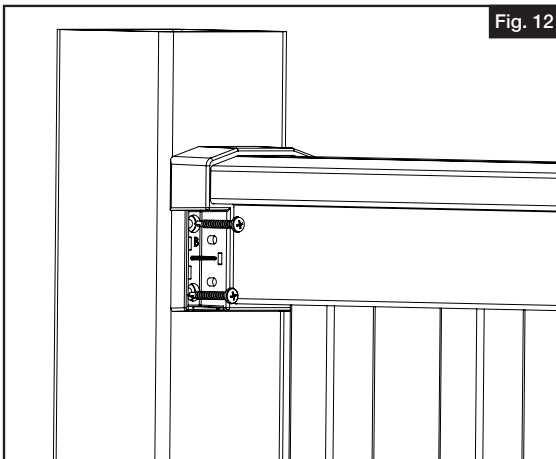

Fig. 12
- iii. Tightly install screws (Fig. 12).